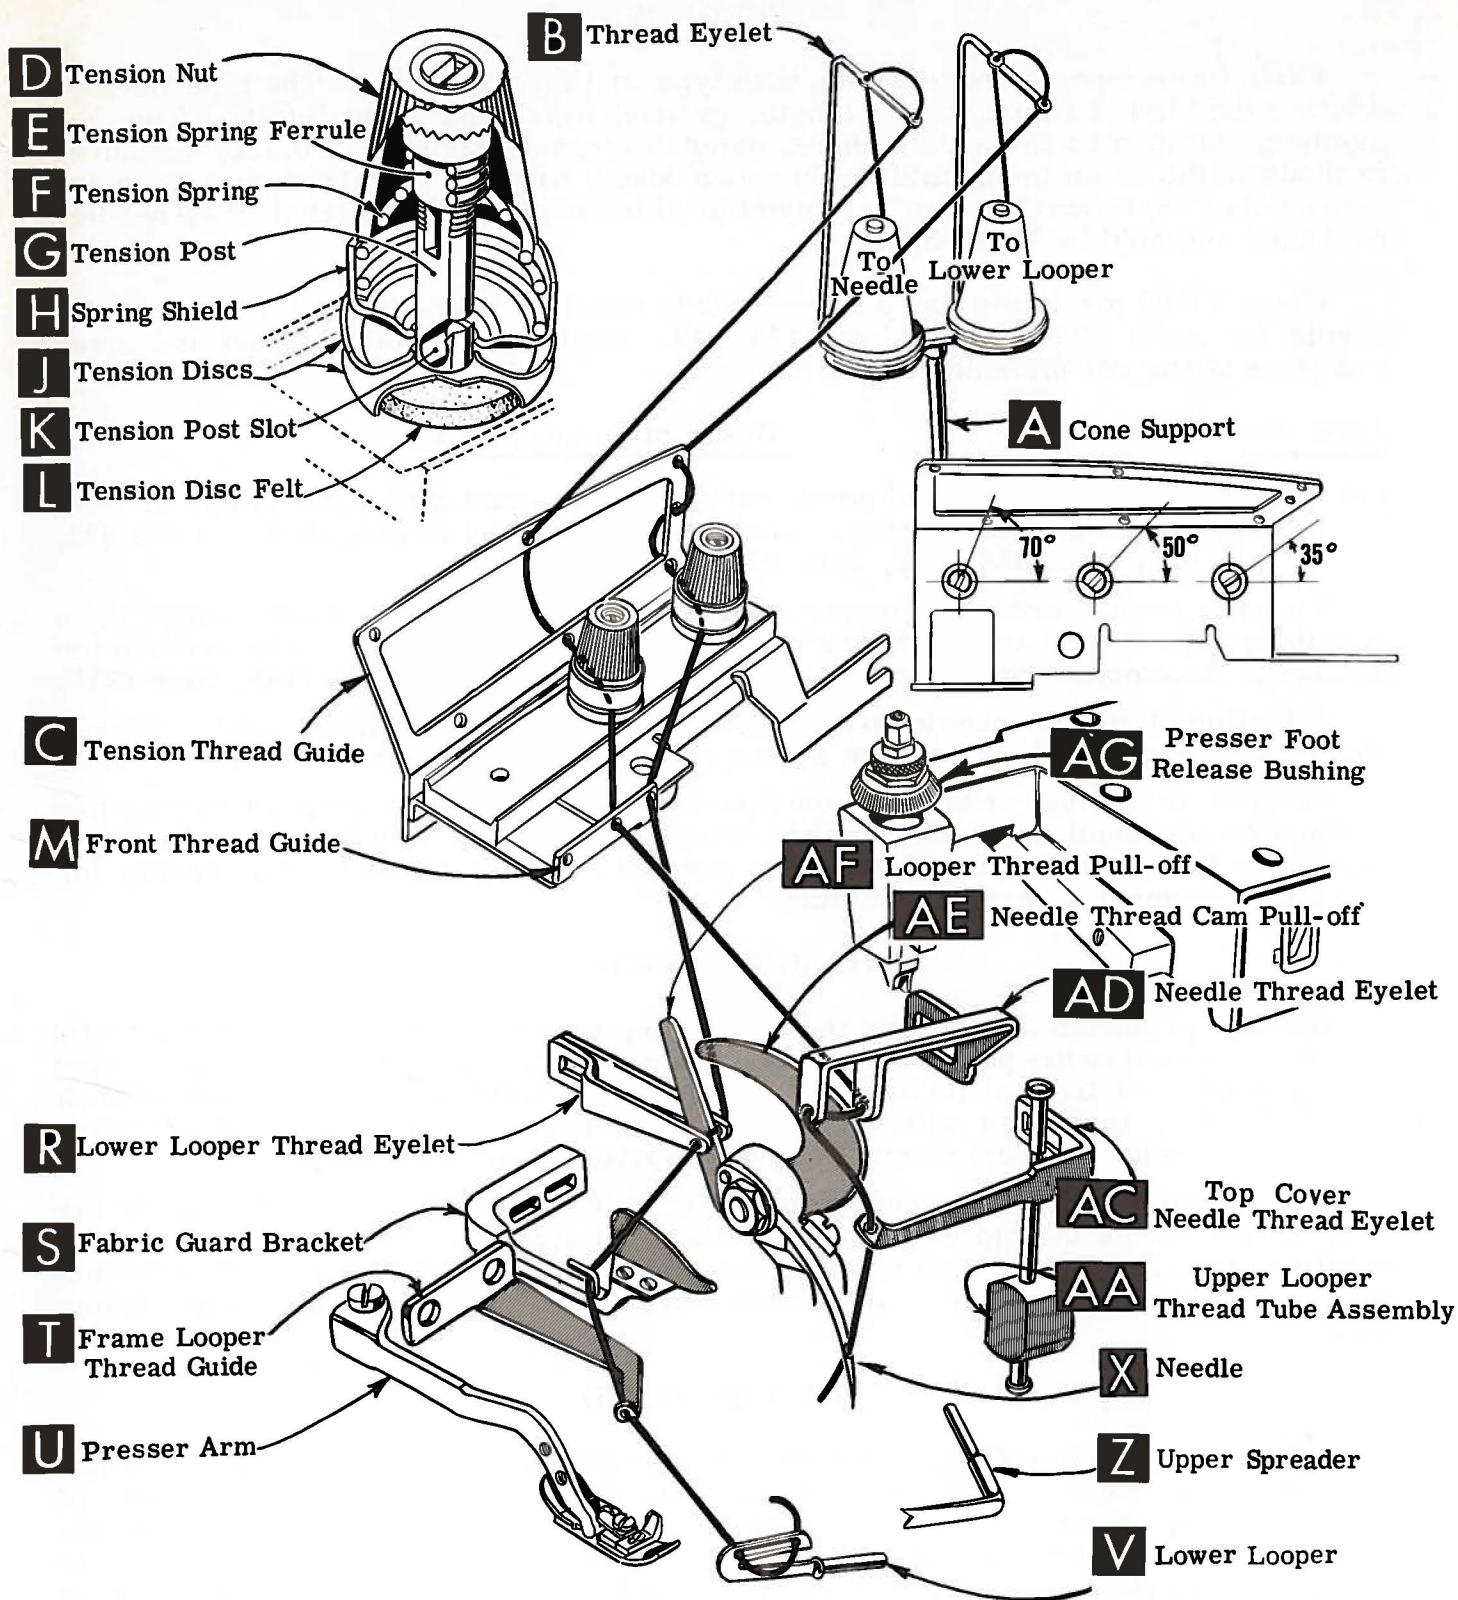
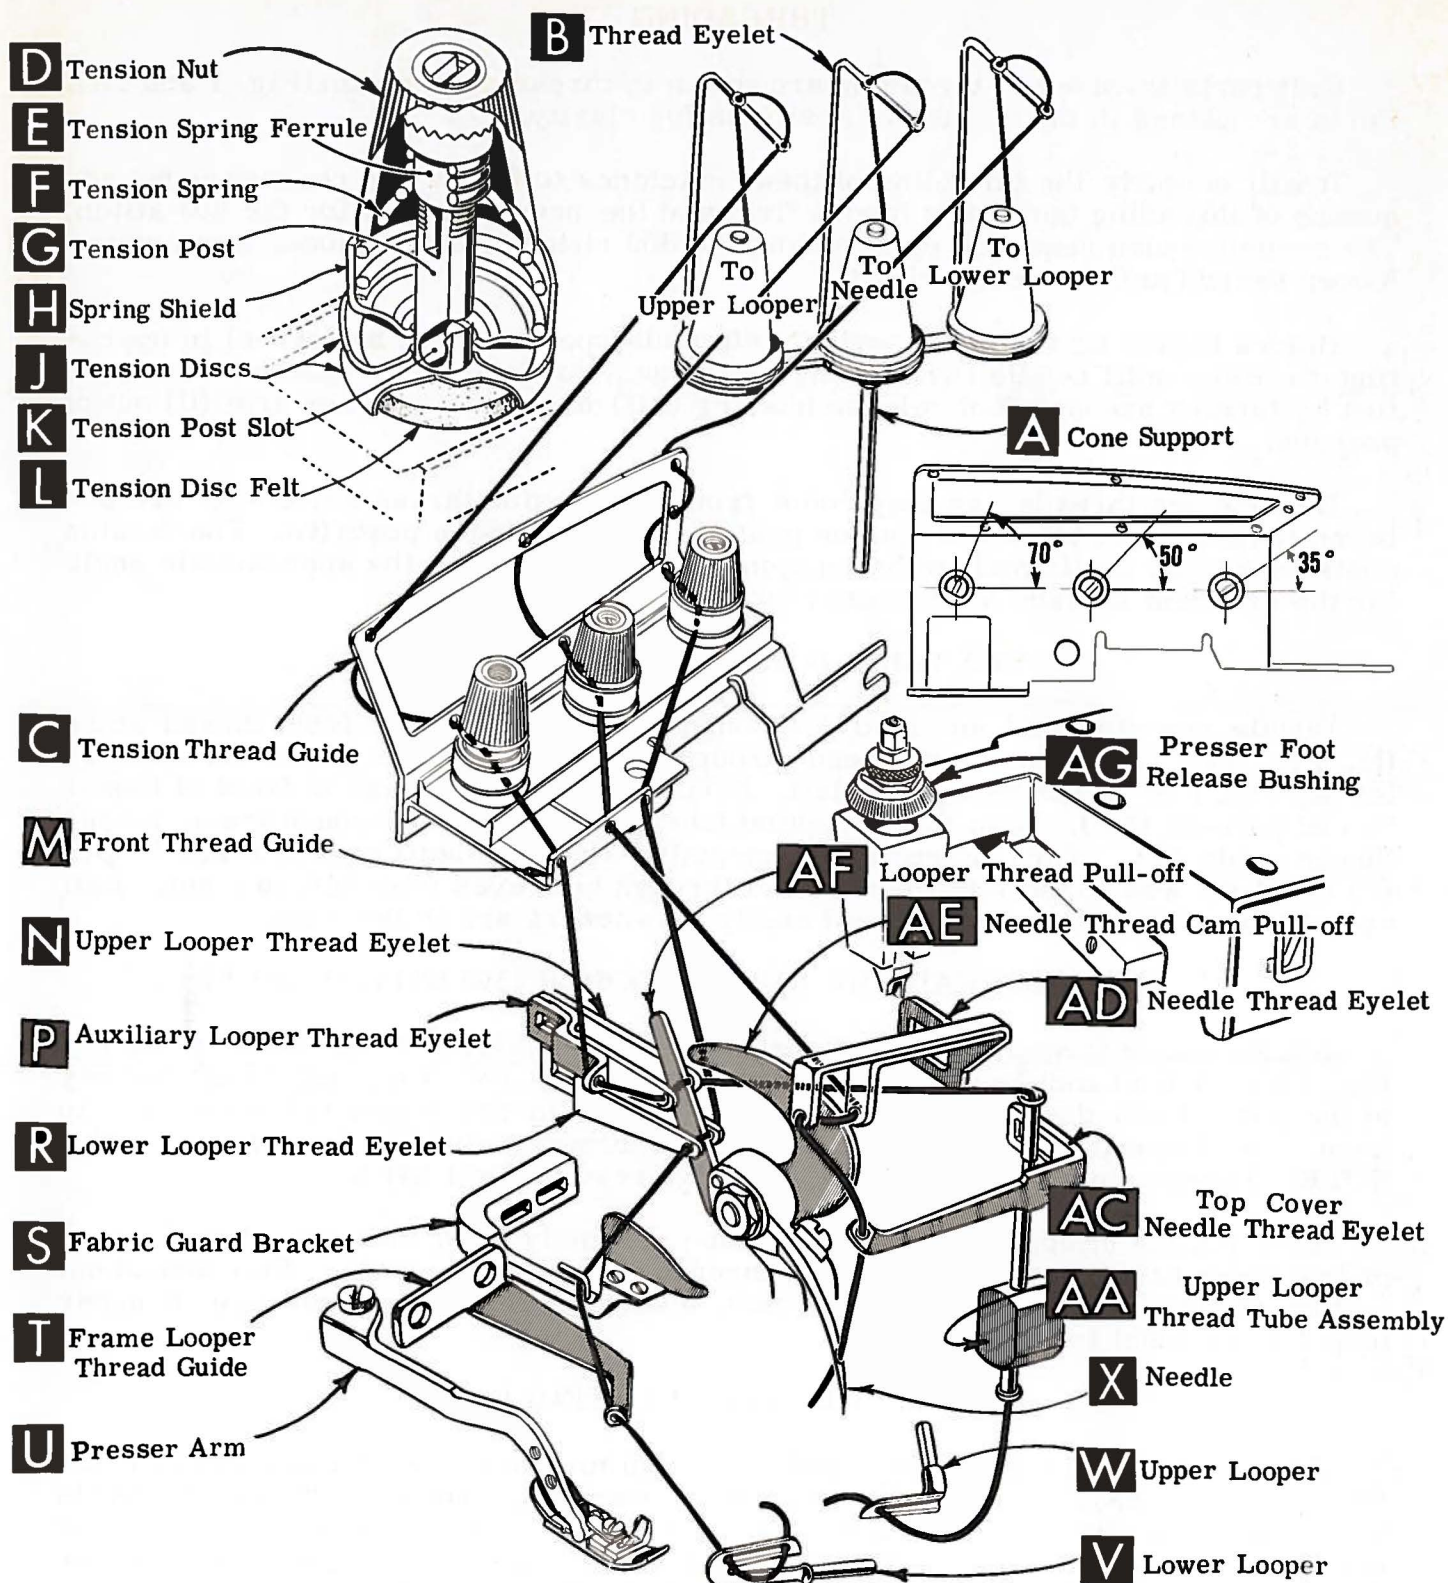

Fig. 1
Fig. 1A
Release pressure on presser foot by turning presser foot release bushing (AG, Fig. 1 or 1A) and swing presser arm (U) out of position. Turn handwheel in operating direction until needle is at its lowest point of travel. Using hexagonal socket wrench No. 21388 AU, furnished with machine, loosen needle clamp nut about 1/4 turn. Again turn handwheel until needle is at high position; withdraw needle.
After thread comes from cones on cone support (A, Fig. 1 or 1A) it is brought up through the back hole of thread eyelet (B), then down through the front hole of thread eyelet. Next, the upper looper thread (505 STITCH only) and the needle thread are threaded through the upper hole of tension thread guide (C) from front to back, and then through the lower hole, from back to front. The lower looper thread is threaded through the upper hole of the tension thread guide (C) from back to front, through the middle hole from front to back and then through the lower hole from back to front. All threads then continue between the tension discs (J), through tension post slot (K) in tension post (G) and on through eyelets in front thread guide (M).
NOTE: Refer to Fig. 1 for threading 503 stitch or Fig. 1A for threading 505 stitch.
Only parts involved in threading are shown in threading diagram (Fig. 1 and 1A). Parts are placed in their relative positions for clarity.
Be sure the threads, as they come from the tension thread guide (C), are between tension discs (J) and in tension post slots (K) in tension posts (G). The tension posts should be positioned so the tension post slot will be at the approximate angle for the different threads as indicated in Fig. 1 and 1A.
Double end of thread and lead it through the right eyelet of front thread guide (M, Fig. 1 or 1A). Then lead thread through both eyes of lower looper thread eyelet (R, Fig. 1 or 1A) from right to left. NOTE: thread must pass in front of looper thread pull-off (AF). Lead thread behind fabric guard (S) and through frame looper thread guide (T). Turn handwheel in operating direction until heel of lower looper (V) is all the way to the left, then thread through both eyes from left to right. Left eye of lower looper can be threaded easily if tweezers are in left hand.
Double end of thread and lead it through the left eyelet of front thread guide (M, Fig. 1A). Turn handwheel until point of upper looper (W, Fig. 1A) is all the way to the left. Lead thread through auxiliary looper thread eyelet (P) from back to front, then through both eyes of upper looper thread eyelet (N) from left to right. NOTE: Thread must pass in front of looper thread pull-off (AF).
Double end needle thread and lead it through middle eyelet of front thread guide (M, Fig. 1 or 1A). Then turn handwheel in operating direction until needle (X) is at its highest position. Insert needle thread from right to left, through both eyes of needle thread eyelet (AD), under neck of top cover casting; then down through hole in top cover needle thread eyelet (AC). Thread needle from front.
The amount of tension on the needle and looper threads is regulated by tension nuts (D, Fig. 1 or 1A). Tension on threads should be only enough to secure proper stitch formation.
NOTE: Be sure machine is threaded according to threading diagram Fig. 1 or 1A. With thread tensions light, set lower looper thread eyelet (R) about horizontal and in the middle of its front to back location.
While sewing on material, check needle thread control as follows: About 60% of needle thread required for the stitch should be drawn on needle downstroke. To increase thread drawn on the downstroke, position needle thread eyelet (AD, Fig. 1A) farther to the rear.
Set lower looper thread eyelet (R, Fig. 1A) about horizontal and all the way forward in its slot.
With material under presser foot, set upper looper thread eyelet (N, Fig. 1A) to rest on top of lower looper thread eyelet (R), and back far enough so upper looper thread is a little slack when upper looper reaches the left end of its stroke.